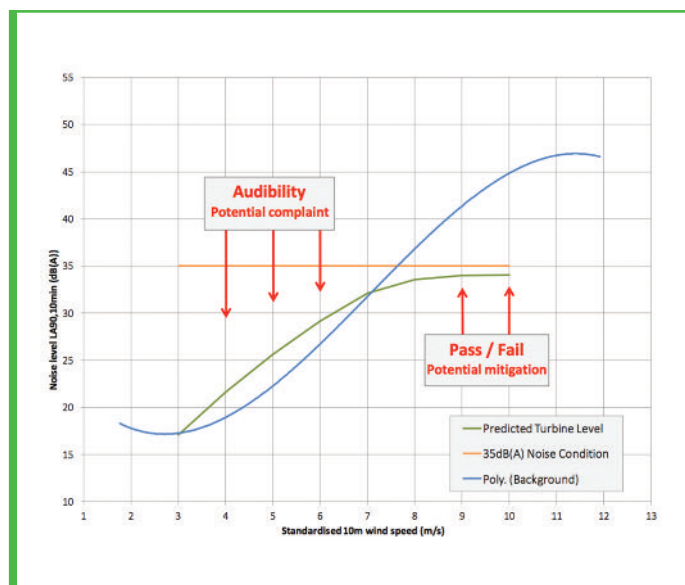

Figure 4 – Noise level v standardised 10m wind speed showing predicted turbine noise, the 35db(a) noise condition and a typical background noise profile
Figure 4 highlights the difference between wind speeds at which turbine audibility (and potential amplitude modulation effects) could be occurring, and those typically most critical for demonstrating planning compliance with a simplified 35dB(A) condition.